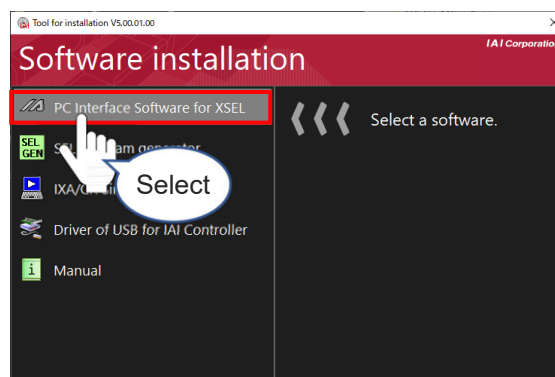

Fig. 1.4 Installation Window
2) When the tool for installation window (Fig. 1.4) is displayed, select “PC Interface software for XSEL.”